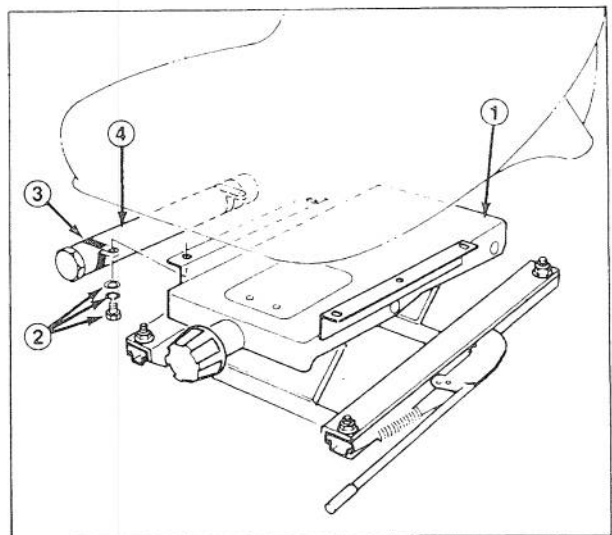

Figure 6
1. Mount seat mounting plate over four threaded studs at the bottom of seat suspension assembly and secure in place with lockwashers and nuts (Fig. 6).
2. Assemble seat suspension assembly to four capscrews on seat bottom and install a lockwasher and flatwasher at all four locations. Install an R-clamp over right front and right rear capscrews of seat and install and tighten nuts to secure all four locations (Fig. 6). Install manual tube into R-clamps, insert manual into tube (Fig. 6).
3. Mount seat support over four threaded studs at the bottom of seat suspension assembly and secure in place with lockwashers and nuts (Fig. 6).